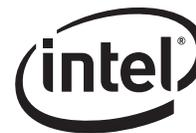

**Figure 11. Trace Routing**
- For high-speed signals, the number of corners and vias should be kept to a minimum. If a 90° bend is required, it is recommended to use two 45° bends instead. Refer to Figure 11.